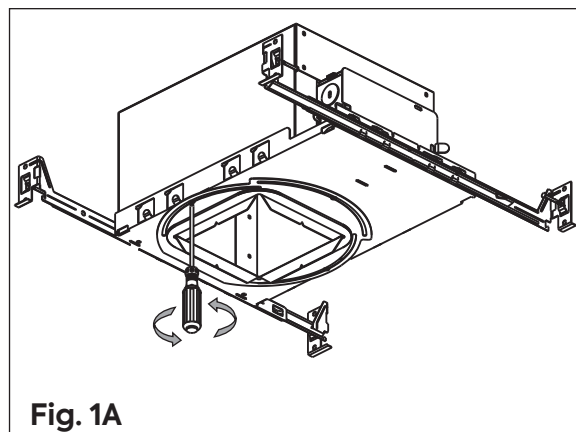

Fig. 1A
Step 1: Install the housing per Elium™ housing installation instructions. For ease of installation for the Millwork Adapter, remove the collar before installing ceiling **Fig. 1A, B and C.**